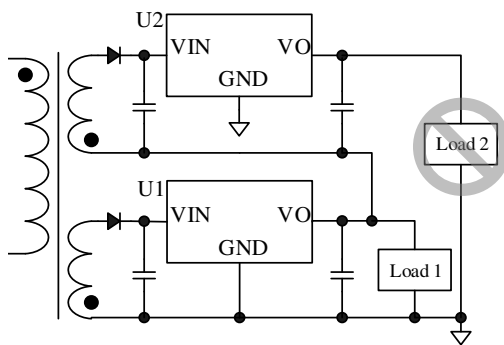

Figure 13-1 Stacked on Loads
- Load 2 is stacked on Load 1 (see in Figure 13-1).